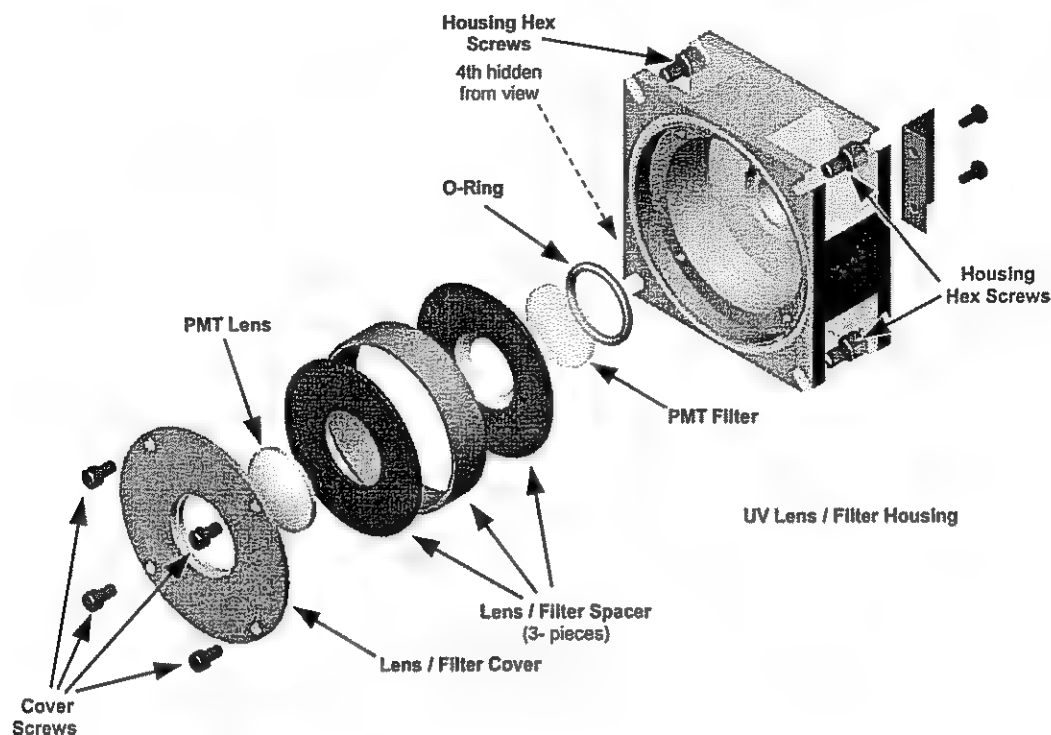

Figure 11-12: PMT UV Filter Housing Disassembled
10. Reassemble the lens/filter housing (see Figure 11-12).